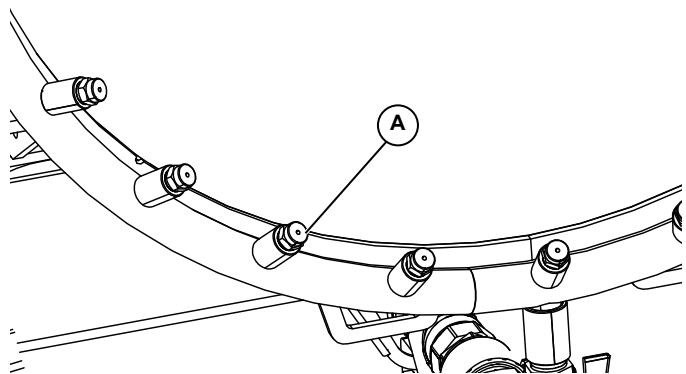

Figure 4-6. Cleaning Nozzles
1. See **Figure 4-6**. Remove nozzles (A) from blower.